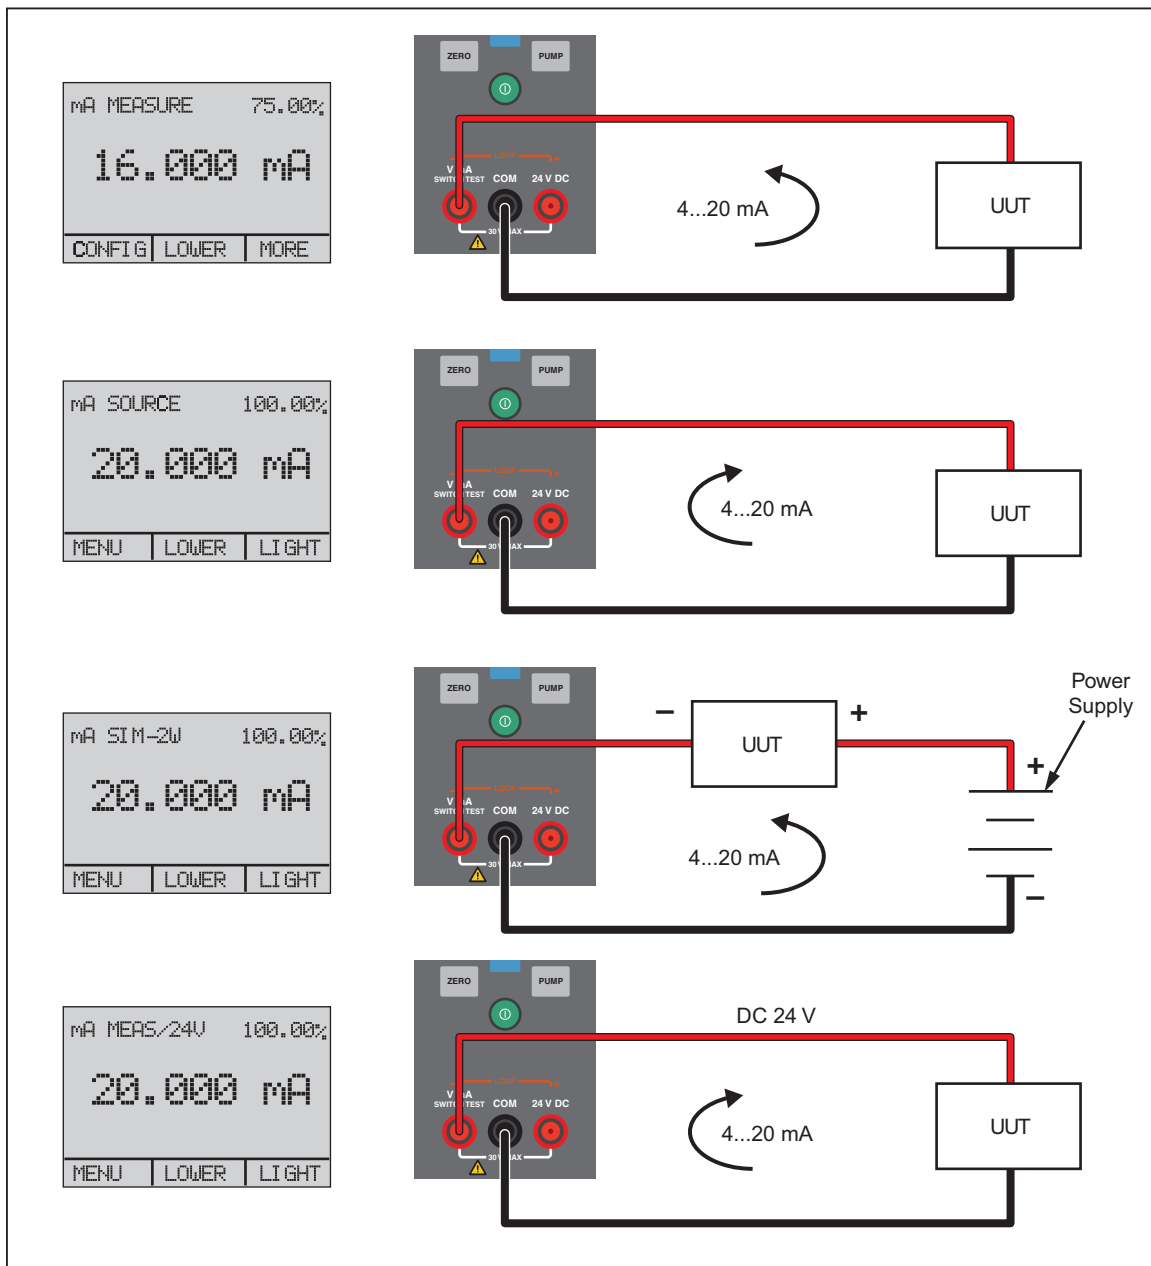

Figure 18. Measure and Sourcing Current
1. To measure current, use the input terminals on the front of the Product. Select the mA function on the lower display. Current is measured in mA and a percentage of the measuring range. The measuring range on the Product is set to 0 % at 4 mA and 100 % at 20 mA. See Figure 18 for connections.
- Push the arrow key to start the output mode and then use the arrow keys to adjust the mA output. The function keys can also be used to control the output in 25 % steps (4, 8, 12, 16, 20 mA) or 0 % (4 mA) and 100 % (20 mA). See Figure 18.